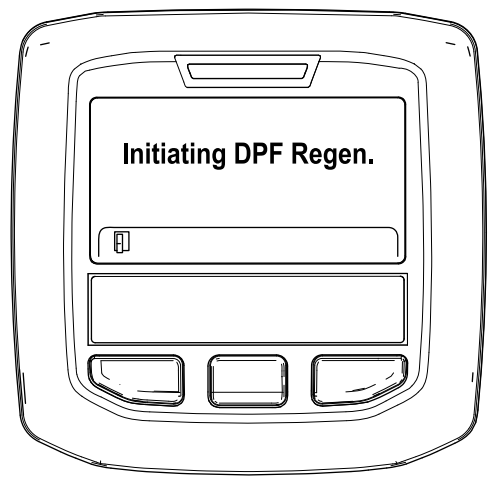

Figure 42
- A. The "Initiating DPF Regen." message displays (Figure 42).